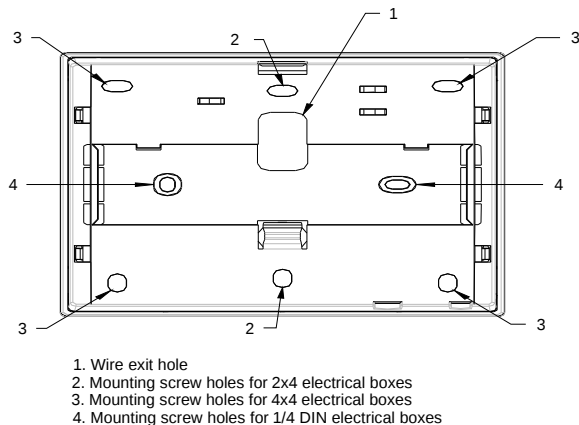

Figure 4: Mounting Screw Holes
4. Pull the power and network communication wires through the wire exit hole (Figure 4).